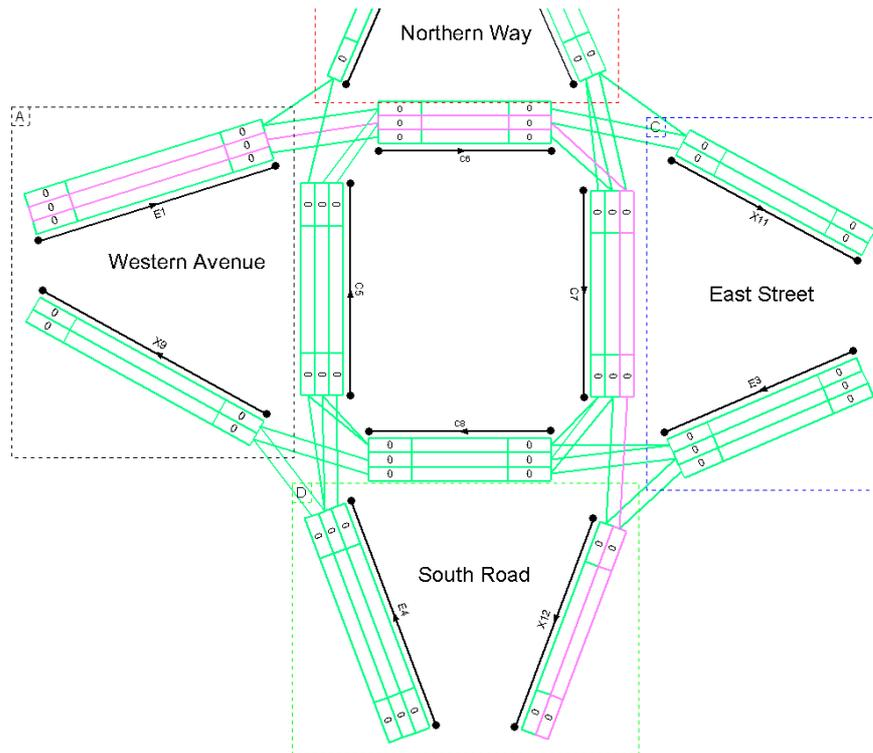

Figure 4.6 : An Example of a Selected Route
- Click on any Route in the Route Manager. The selected Route will be highlighted in pink in the Network View, similar to Figure 4.6.